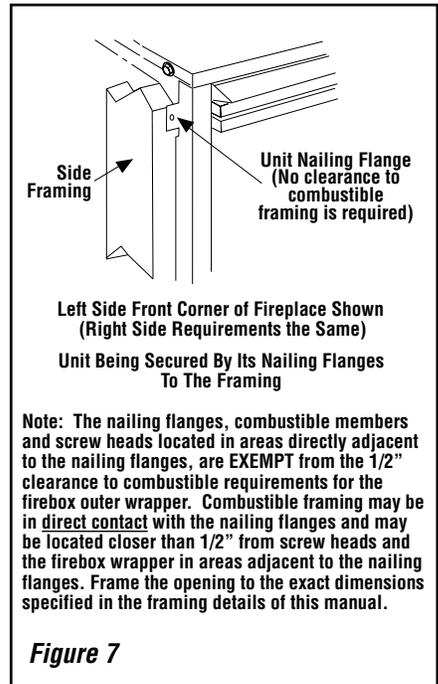

Figure 7
***Note:** See **Figures 7 and 8 on Page 8** for clearance requirements to the nailing flange located at each side of the unit and any screw heads adjacent to it.
The fireplace should be secured to the side framing members using the unit's nailing flanges - two at the top and bottom on each side of the fireplace front. See **Figure 7**. Use 8d nails or their equivalent.